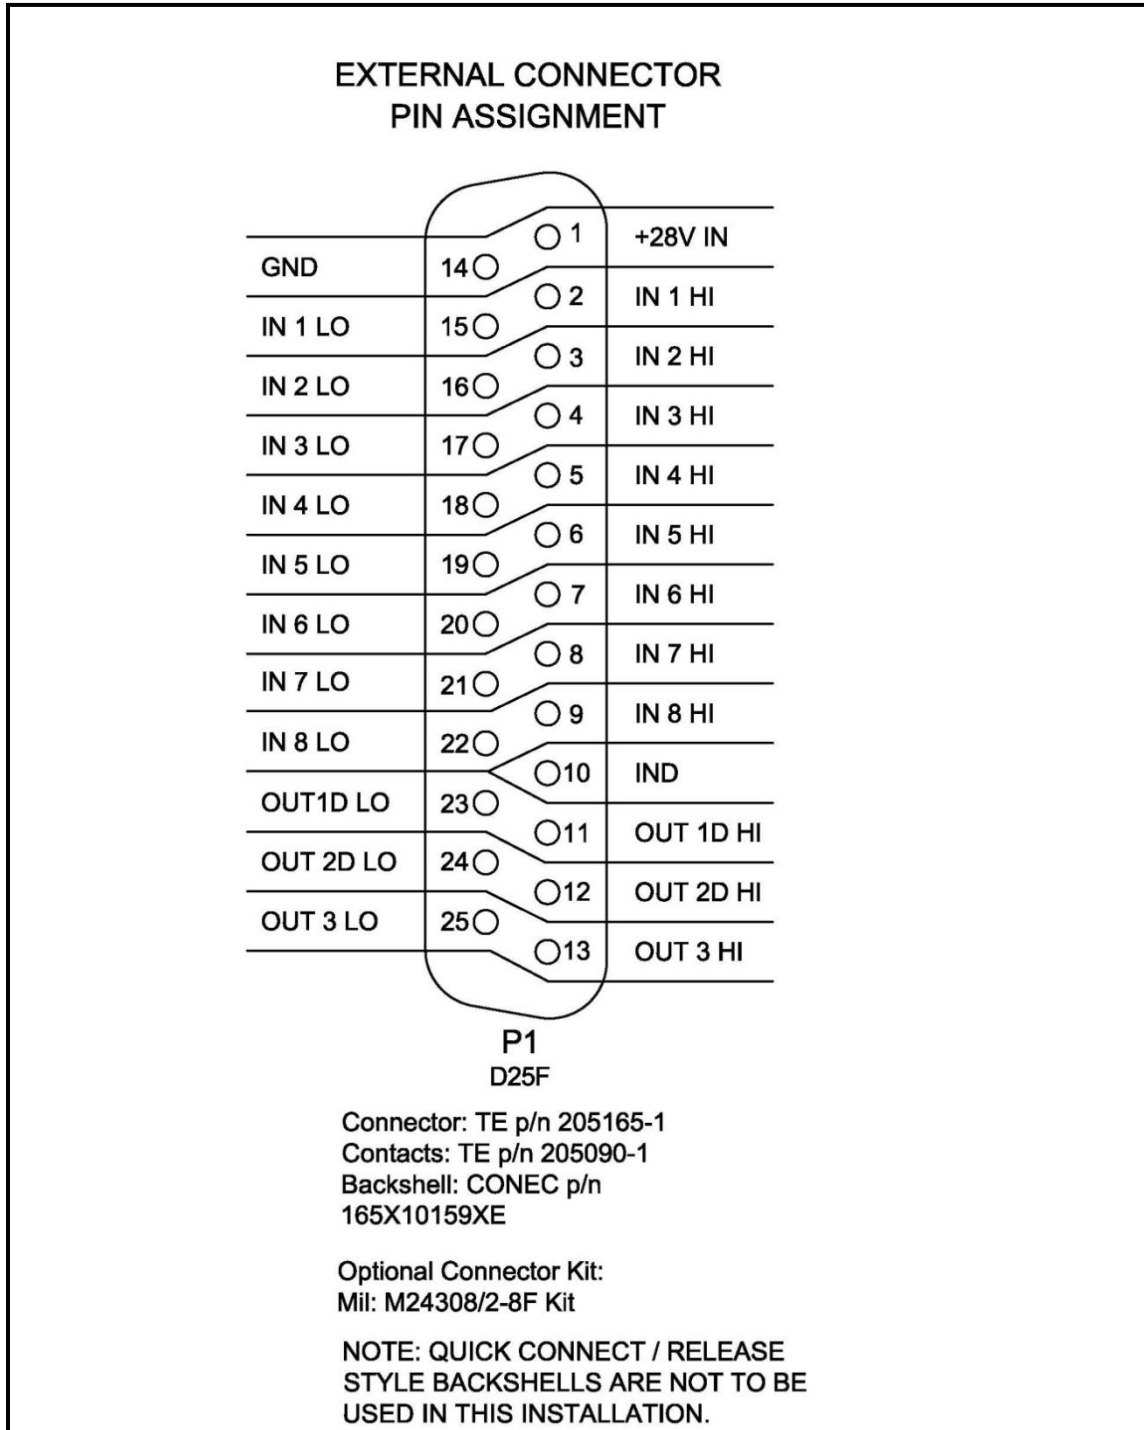
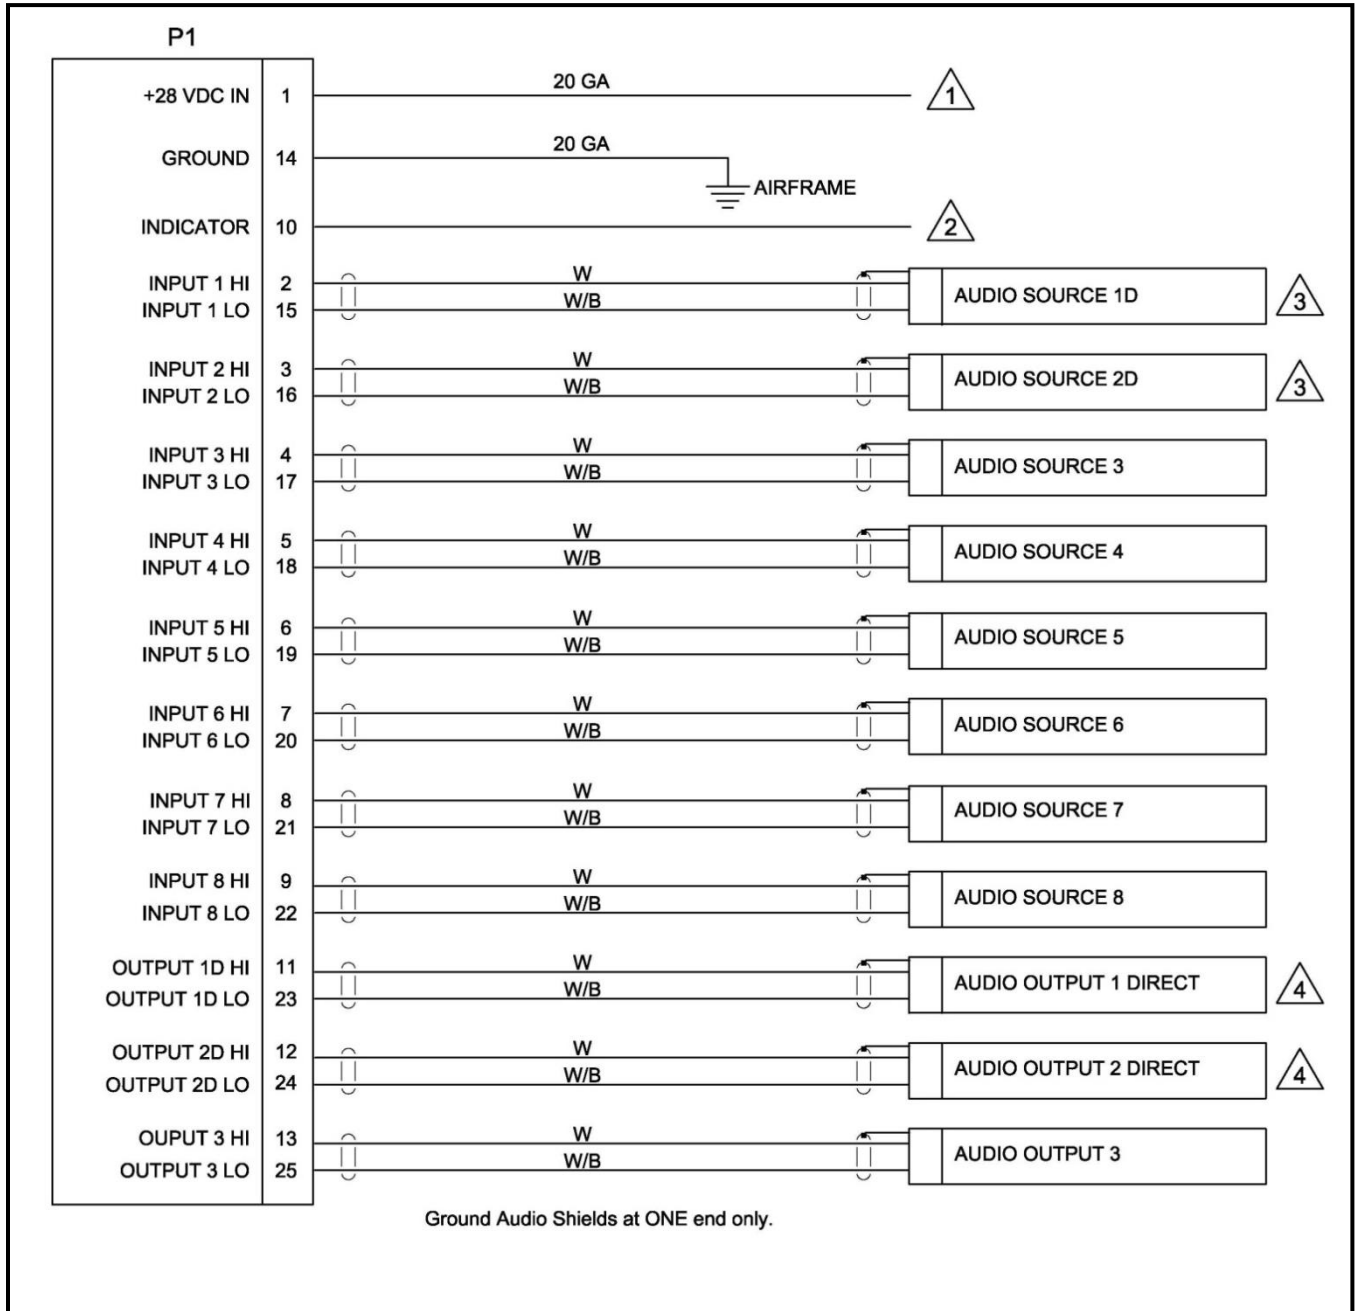

Figure 21: G13120 Audio Mixer Wiring
Figure 22: G13120 Audio Mixer Wiring
- a. Refer to Figure 21 and Figure 22 for cable harness fabrication instructions.
- a. Notes listed below apply to Figure 21 and Figure 22.